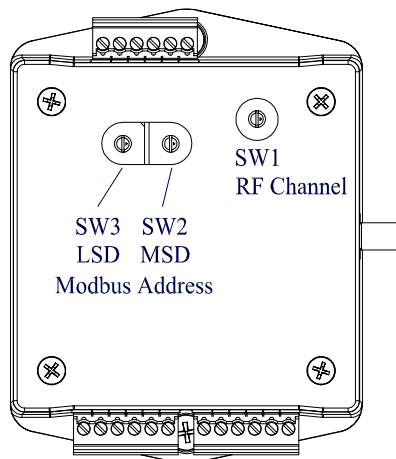

Figure 1 MCX-32 Wireless Transceiver
- Figure 1 MCX-32 Wireless Transceiver 2
The RXT-320 wireless transceiver used with the MCX-32 is packaged in a black ABS box (Figure 1) that is DIN rail mounted in the enclosure. A separate transceiver is required for each communication port (network) to be used. There is an accessible rotary switch SW1 located on the box that enables selection of the desired RF channel/Network ID for the corresponding communication port. The RF channel and Network ID are married via the switch so the value selected represents both the RF channel and Network ID. For example, if the SW1 rotary switch is set to a value of 3 then the RF channel is 3 and Network ID is 3. A total of 16 RF channels can be selected ranging from hex values 0 thru F which correspond to decimal values 0 thru 15.